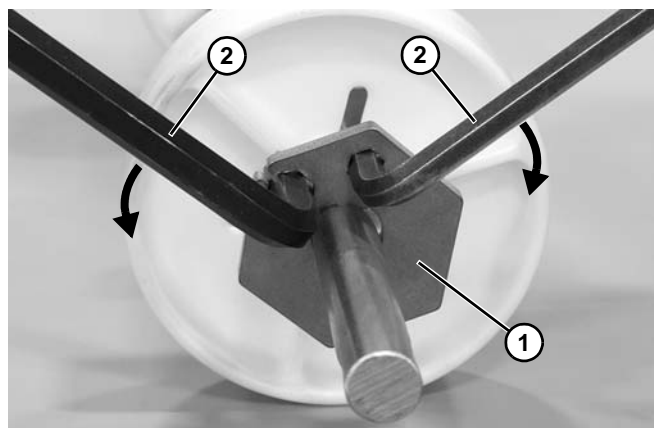

Figure 64
- c. To lock the retainer plate (**Figure 64, item 1**) in place, move the wrenches (**Figure 64, item 2**) away from each other.